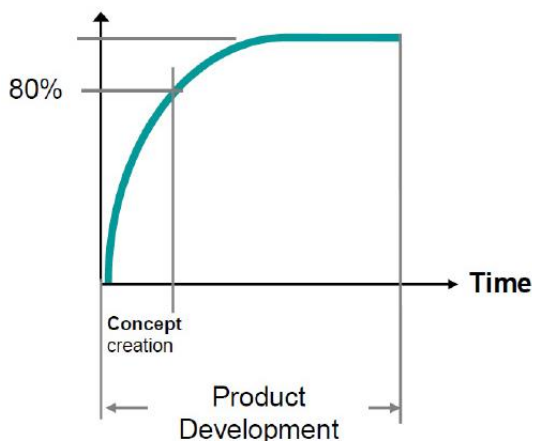

Figure 2: Illustration of design process against percentage of environmental impact fixed
It is widely claimed that 80% (21) of a product's overall environmental impact has been 'built in' by the end of the conceptual design phase (Figure 2). At this point, the designer has typically selected materials and manufacturing processes, and defined the product lifecycle: these constrain not just the final economic cost but also fix many of the environmental costs.